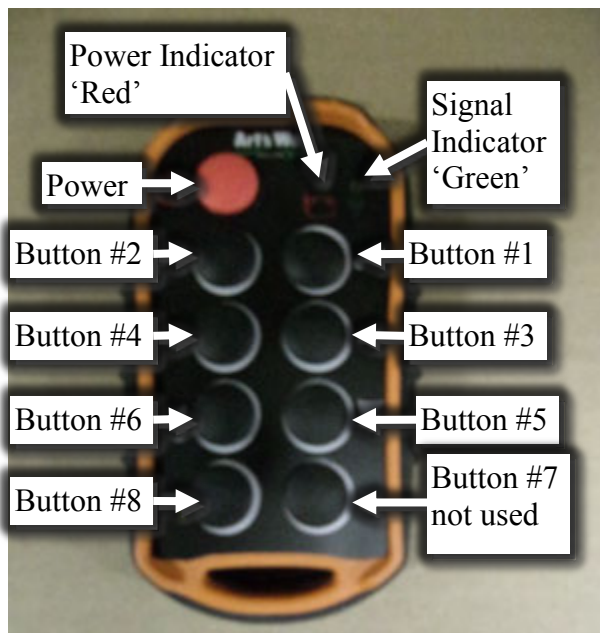

Figure 83 – Macro-Wireless Remote Control Device Button Programming (for Functions see Figure 87).
The control valve is electrically actuated from a Remote Control device (See Figure 83).
NOTE: An internal **rechargeable lithium ion battery** supplies power for the **Macro-Remote Control** (Figure 83).
2. Turn power on Remote Control (POWER button Figure 83).
3. Simultaneously push buttons #1, #4, & #8 (see Figure 83).
6. Push button #8 (Discharge Auger Start/Stop) (see Figure 83).
5. On the Remote Control press and hold the POWER button, button #1, & button #8 (see Figure 83). At this point, both lights will blink on the Remote Control transmitter.
1. With the Remote Control power off press and hold buttons #3, #4, and #8 and then POWER (see Figure 83).